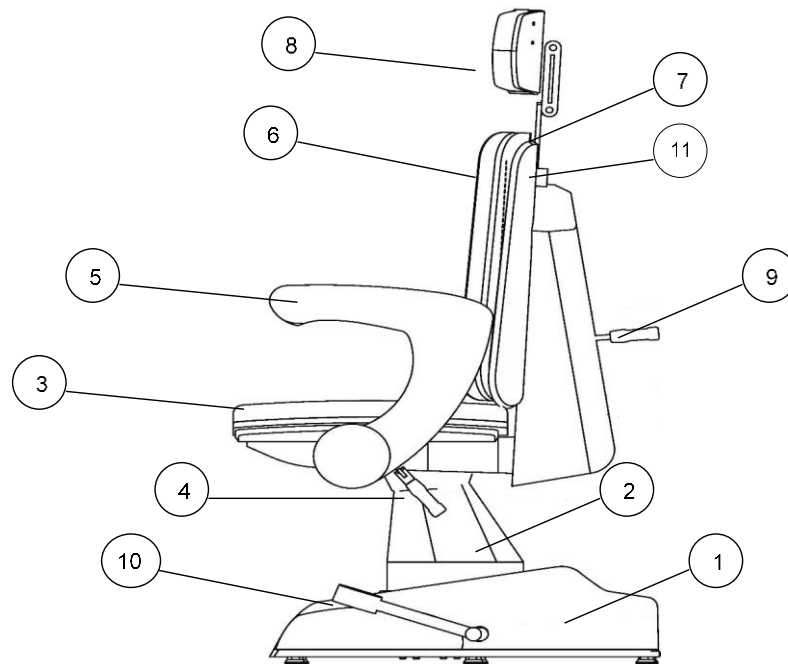

Fig.1 The Laryngological-Mechanical chair FO-02
Position on Figure 1	Description
The height of the seat is changed hydraulically by pressing the lever located at the base of the chair, (fig. 1, pos. 10). In order to change the height of the seat in the range of ~140 mm (5.5”) from the floor level, the lever should be pressed with foot until the desired height is obtained. To lower the chair, the lever should be lifted with foot and the chair will be lower as long as the lever is lifted or until it is in the lowest position.
Adjustment of backrest inclination angle is done with gas springs. Gas springs should be unlocked with lever located behind the backrest segment. (fig. 1, pos. 9). After adjusting, relock the backrest.
In order to adjust the headrest height (item 8, fig. 1) it is necessary to unlock the hand wheel, move the headrest up or down manually to the required position, and then lock it in place, (item 9, fig. 1). The angular position of the headrest is locked with a lever placed in the headrest back (item 7, fig. 1). The lever locks the headrest in its top position and unlocks in the down one. The maximum height of the guide of the headrest is marked with an arrow and word 'MAX'.
The rotation locking lever (item 4, fig. 1) is placed under the seat. In order to rotate the chair up to 90° to the left or right, release the lever. In order to lock the chair in the required position, relock using the lever.